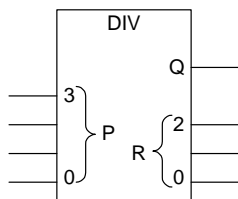

Figure 4.1
- (a) The input to the “DIV” logic module shown in *Figure 4.1* is a number  $p$  in the range 0 to 9. The module outputs are the 1-bit quotient,  $q$ , and the 3-bit remainder,  $r$ , that result from dividing  $p$  by 5. Thus if  $p = 7$ , the circuit will give  $q = 1$  and  $r = 2$ .